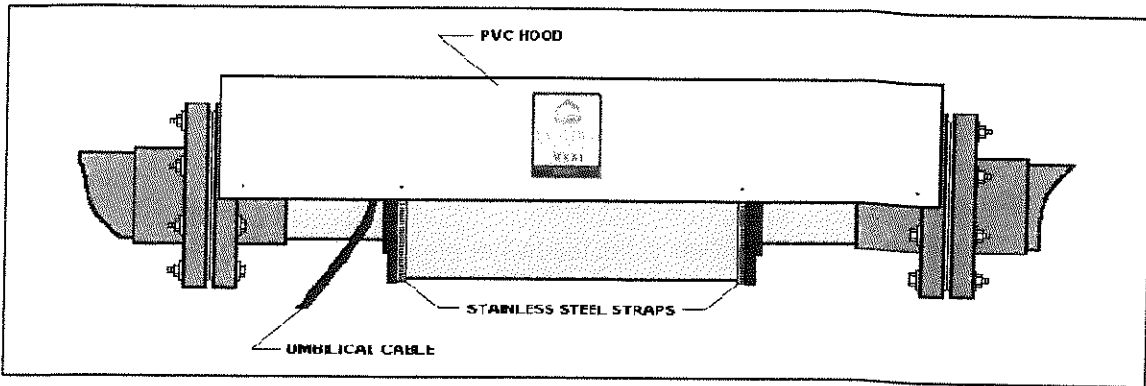

Figure 12. Outside – Horizontal Installation with Rain Hood
2. Horizontal rain hoods for the Dolphin System Treatment Module are custom built to meet specific project requirements and are field installed. A typical horizontal rain hood is depicted in Figure 12 on page 34.